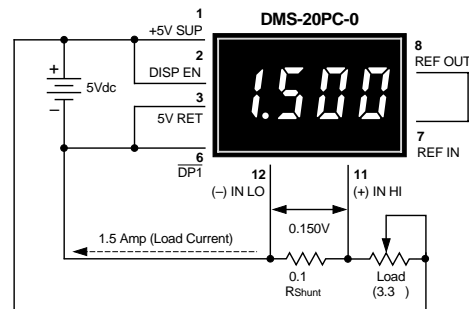

Figure 9. DC Ammeter Circuit
7. **Digital Ammeter:** Digital ammeters are finding ever-increasing usage because analog-style ammeters (moving-vane types) now cost roughly the same as their digital counterparts. Additionally, analog ammeters are not nearly as rugged as modern digital panel voltmeters. Figure 9 illustrates a typical ammeter application. The circuit uses a ±200mV input meter — the preferred range for most ammeters — to measure the voltage developed across a 0.1Ω current shunt. The circuit shown represents a basic ammeter connection diagram. A detailed application note describing digital dc ammeters is included in DATEL's new Digital Panel Meter Databook.